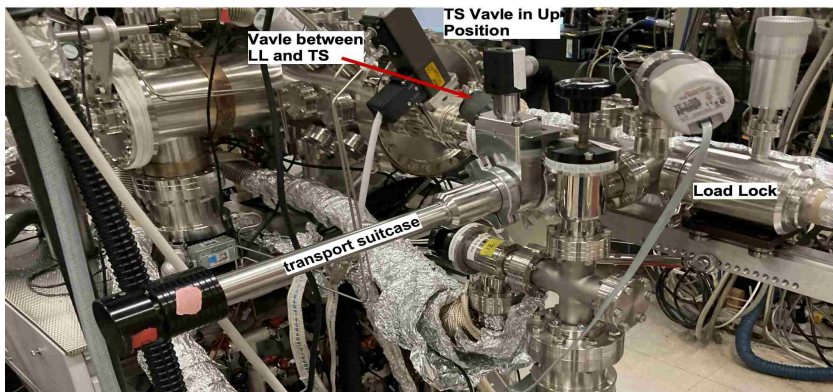
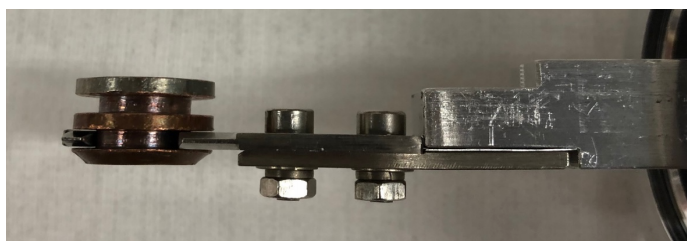
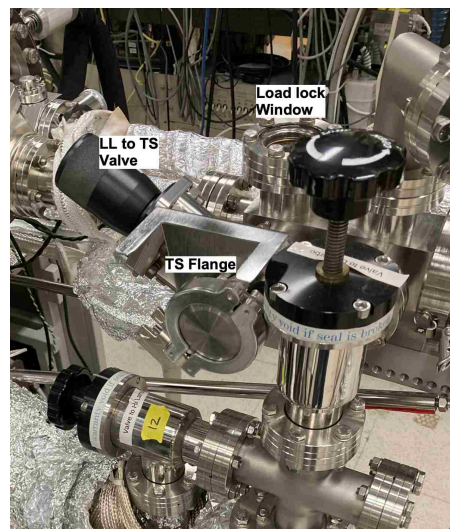

Figure 1 TS attached to the KF Flange with TS valve handle facing up.
Figure 2 Puck mounted on portable TS claw.
Figure 4 View from back of instrument of Valve between LL to TS.
- The suitcase arm loads onto the quickflange port on the north side of the LL, Figure 1.
- Be careful with the valves, Figure 1, where the TS gets attached. Opening these valve when the LL is under vacuum will **crash** the LL.
- The puck mounts to the TS using the **bottom** groove, Figure 2.
- (1) With the TS in your glove box mount your sample on a puck.
- (2) Open the TS's gate valve with the valve actuator oriented at 12 o'clock, move the claw out of the arm so it can be accessed.
- (3) Mount the puck with your sample on the TS claw using the **bottom** groove (Figure 2), such that the sample faces up with the gate valve actuator mechanism at 12 o'clock. Be careful not to damage the pin at the end of the claw that holds the puck in place. Ensure the sample is secure, since the puck will be vertical during sample transport.
- (4) Hold the suitcase arm such that the VAT label on the valve is oriented up while transferring the arm to the Kratos. In this orientation, the sample is vertical with the open end up and the claw holding the puck from beneath. Holding it the wrong way may cause the sample to fall out during transport. Use the screw on the end of the arm to lock the magnet in place during the transfer.
- (5) At the Kratos, check that the pressure in the STC is  $< 10^{-8}$  Torr and the LL is  $< 10^{-6}$  Torr.
- (6) Remove caps from the KF flange and the TS arm port.
- (7) Attach the TS to the KF flange with the valve actuator facing at 12 o'clock, figures 1, 3, 4.
- (8) Fasten the arm with the clamp for the KF with the bolt/screw facing down, Figure 1.
- (9) Make sure TS is mounted evenly to KS flange.
- (10) Vent the LL turbo pump and unclasp the LL springs.
- (11) When the LL is completely up to atmosphere open the gate valve between the LL and the TS, Figure 4, so the space between the TS and the LL can get pumped down. The gate on the TS should be kept closed.
- (12) *Put a sign on the LL turbo that the transport is attached, and no one should touch the LL turbo.*
- (13) Turn on LL turbo and wait until turbo reaches full speed and the pressure is  $<10^{-4}$  Torr.
- (14) Vent LL (venting only possible when turbo is up to speed).
- (15) As soon as pressure gauge on LL reads  $7.5 \times 10^2$  Torr, with the LL under a slight vacuum, restart the LL turbo and open the hand valve on the TS, Figure 4, the handle facing up, reclasp the LL springs.
- (16) Wait until LL pressure is  $<10^{-4}$  Torr.
- (17) Unlock the TS magnet and extend the TS arm into the LL chamber.
- (18) Transfer your sample from the TS claw onto the claw for the LL arm. This may require gently moving the LL arm and the TS arm to mate. The claws for the LL and TS both have little springs that are to help hold the sample and provide a little resistance. The TS has been adjusted so it should go on without pushing on the end of the TS if it is mounted correctly. Do not push or pull the TS too hard.
- (19) After transferring the puck, retract TS back into its chamber, lock the magnet, and close the TS valve.
- (20) Close valve from the LL to the TS (the one facing up at  $45^\circ$ , Figure 2).
- (21) Wait for the pressure in the LL to reach  $<10^{-6}$  Torr, about 1 hour.
- (22) Check the STC is at low pressure  $<10^{-7}$  Torr.
- (23) When the pressure in the LL is  $<10^{-6}$  Torr you can follow standard instructions to insert the sample from the LL into the STC.
- (24) Withdraw the LL arm from the STM and the close the valve between the LL and the STC.
- (25) Open the TS valve and then slowly open the valve between the LL and the TS (the LL pressure will rise).
- (26) Wait till the pressure is  $<10^{-4}$  Torr.
- (27) Unclasp the LL springs and vent the LL.